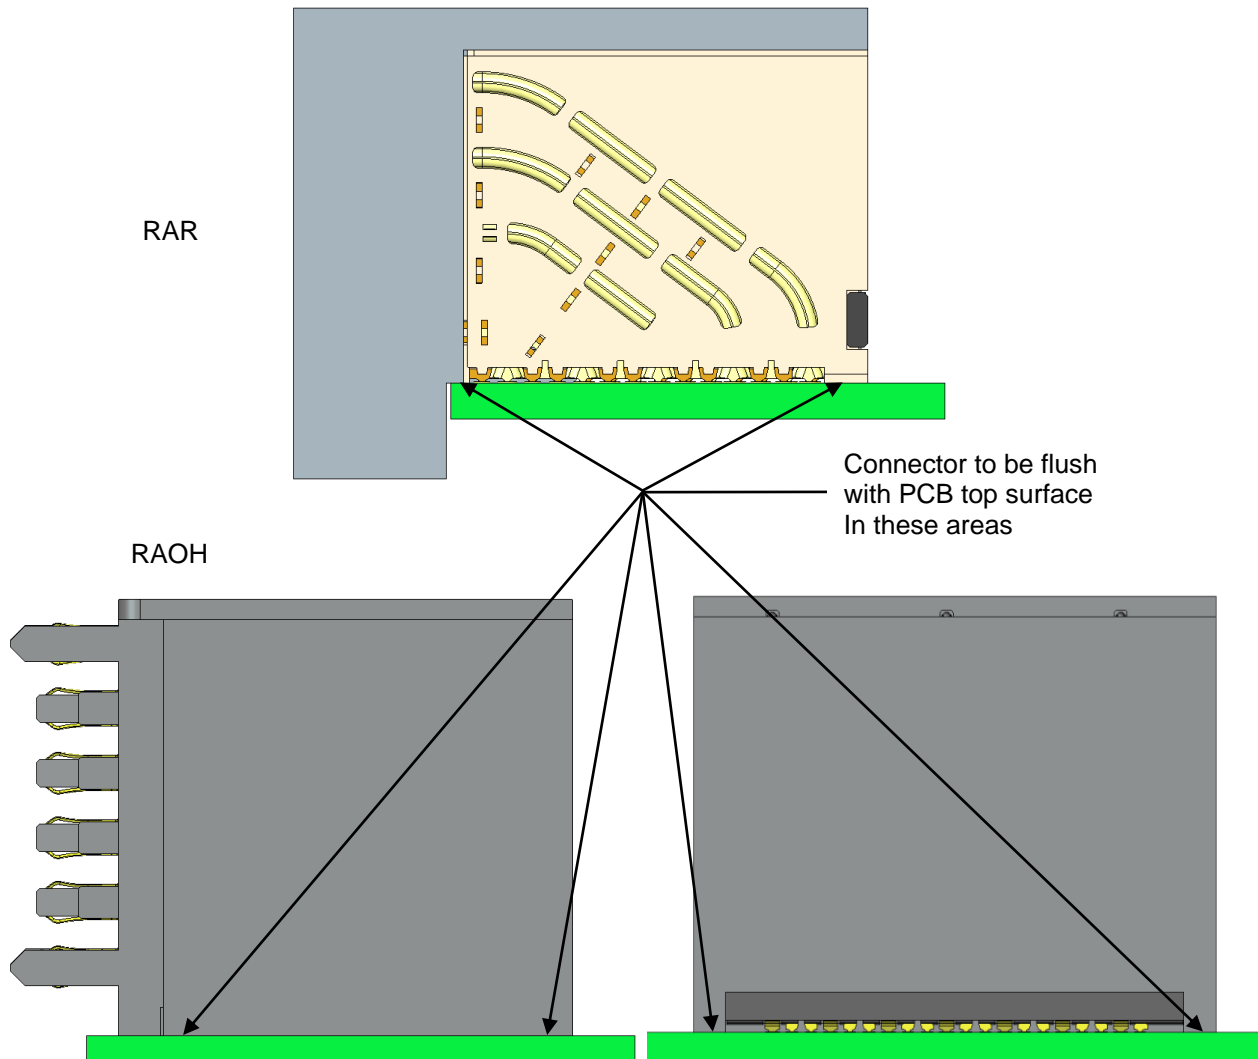

Figure 34: Proper Seating after Board Application
- Visually check that the standoffs on the bottom of each assembly are seated flush and parallel with the PCB surface (see Figure 34). Once fully seated, there may be some minor gaps (<0.1 mm) due to component tolerances.